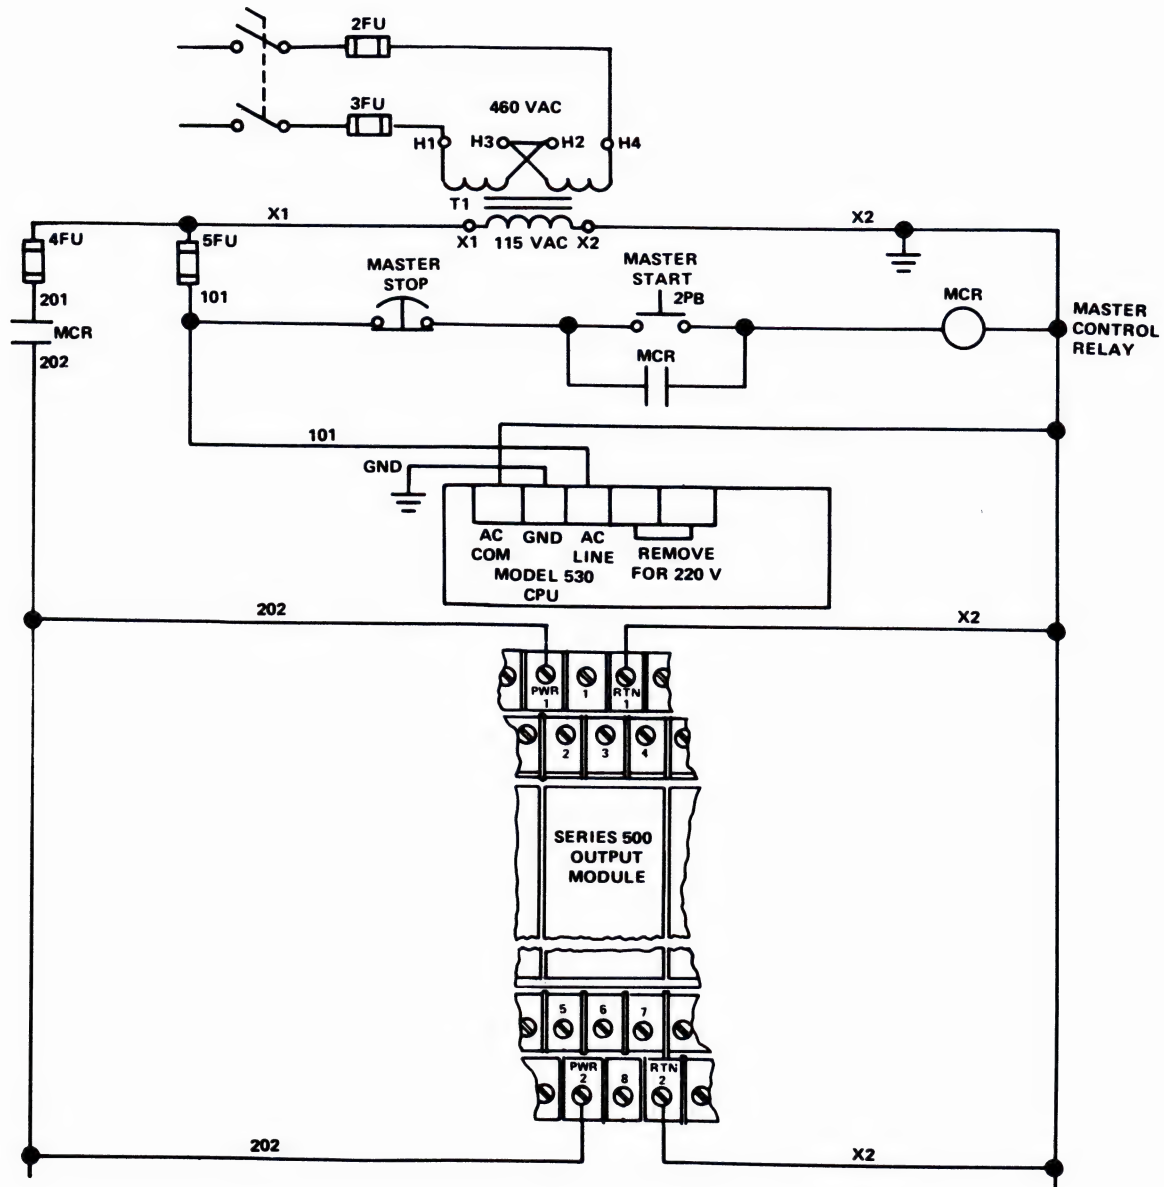

Figure 7-3 Master Stop Switch
- Another suggested precaution is including a Master Stop switch circuit on the AC power line side of the controlled output devices. Figure 7-3 shows this type of circuit without a built-in time delay.